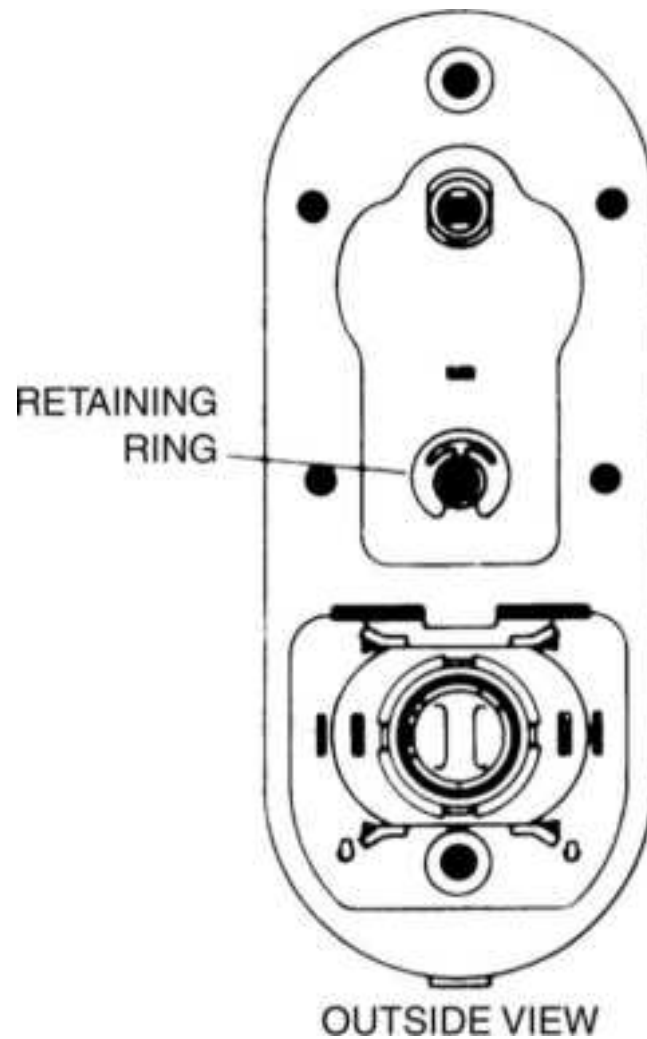

**Figure 13.80** Changing hand, Step 11.
11. Install the retaining ring (Fig. 13.80 ).